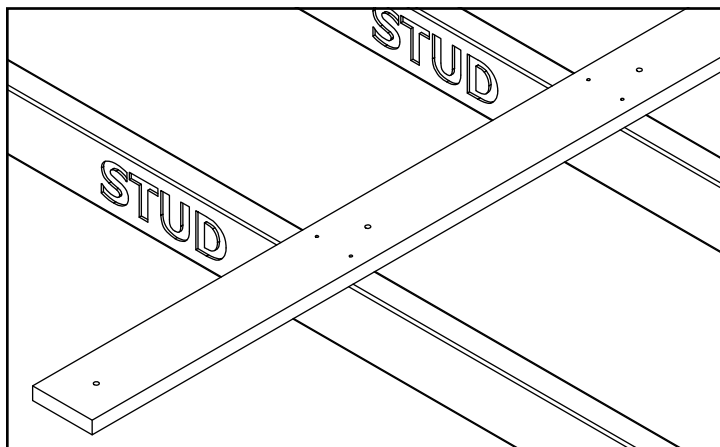

Figure 11. Backer Board Stud Alignment
1. Using a $1/8$ " drill bit, pre-drill for the studs, placing two holes vertically spaced along the area that will contact the stud as seen in figure 11.
3. With the backer board held in position and level, secure it to at least 5 studs with the included (10) #9 X 2-1/2" wood screws.